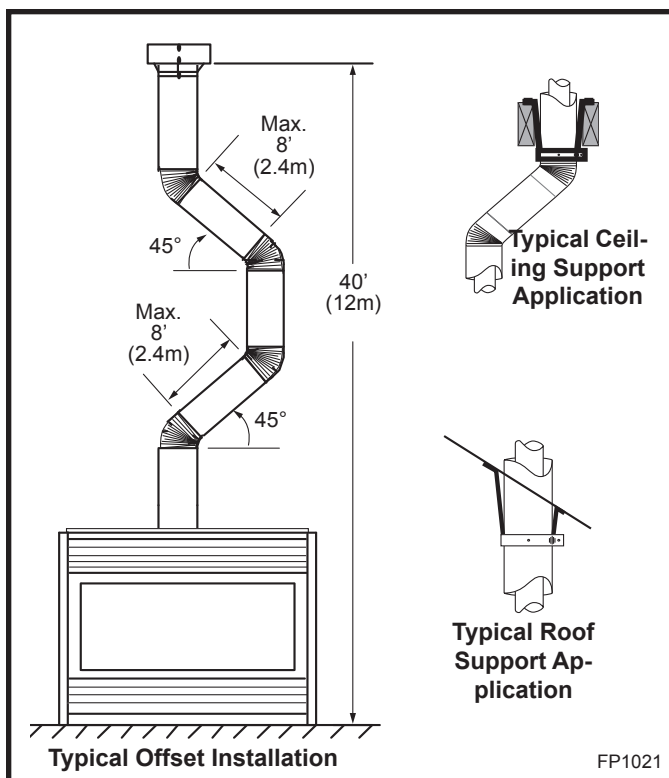

Fig. 36 Typical vertical roof applications.
4. Two sets of 45° elbows offsets within these vertical installations. From 0 to a maximum of 8' (2.4 m) of vent pipe can be used between elbows. (Fig. 36)
5. 7DVCS must be used to support offsets. (Fig. 36) This application will require that you first determine the roof pitch and use the appropriate 7DVSKV (A, B or F). (Refer to Venting Components List, Page 23)